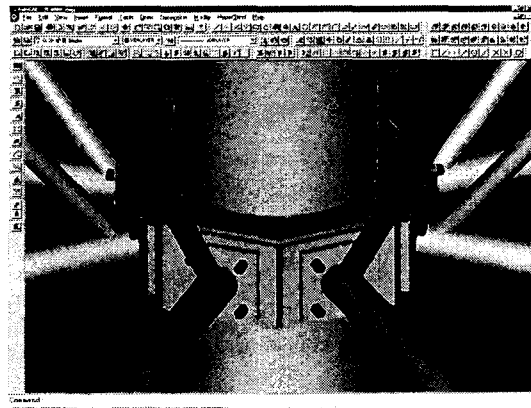

Fig. 8 Rendering in HyperSteel
- The model can be visualised with standard AutoCAD commands HIDE, SHADE, RENDER (Fig. 8)